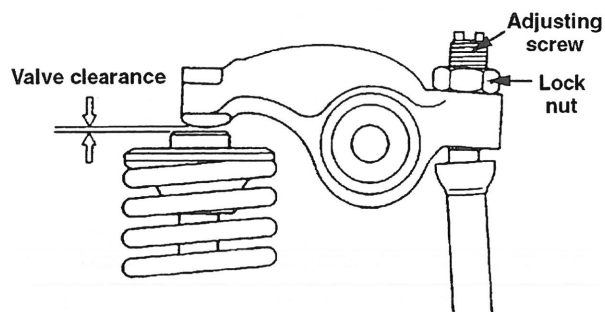

Figure 11. Valve Clearance
5. Loosen the lock nut and adjust the clearance between the rocker arm and valve cup of both the intake and exhaust valves with the adjustment screw. Clearance on both intake and exhaust valves should be 0.006 - 0.010 in. (0.15 - 0.25 mm). (See Fig. 11)